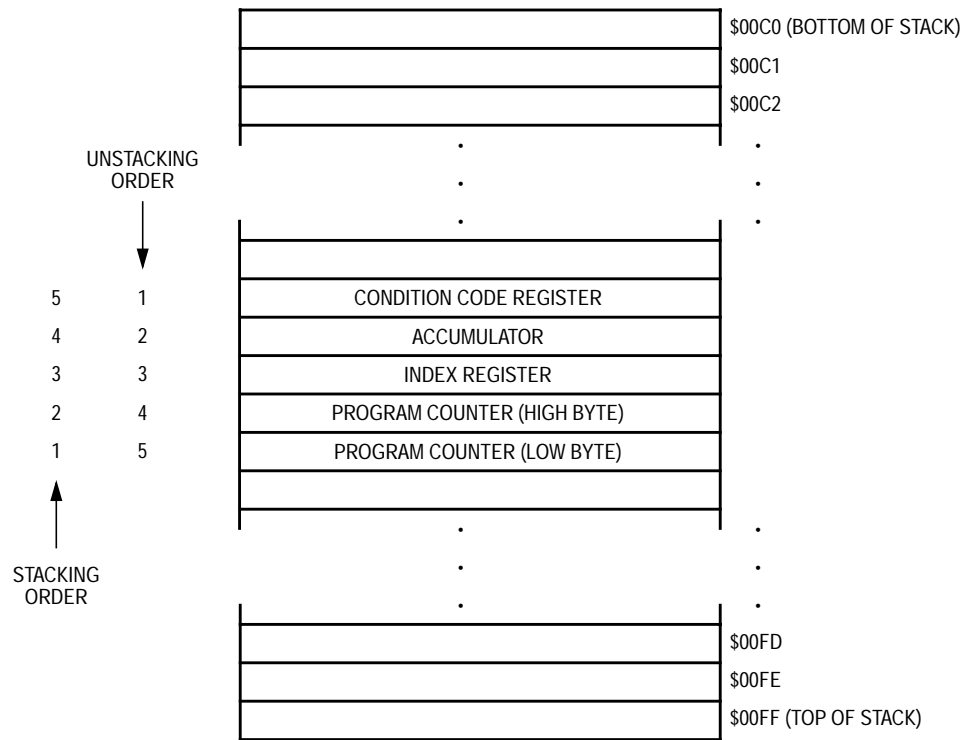

Figure 6. Interrupt Stacking Order
- Stores the CPU registers on the stack in the order shown in **Figure 6**
The return from interrupt (RTI) instruction causes the CPU to recover the CPU registers from the stack as shown in **Figure 6**.